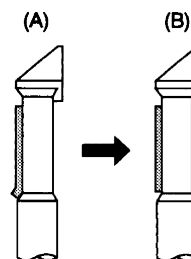

Fig. 2-1-78 No. 8 guide rough adjustment
2. Turn the ACE tilt adjusting screw until tape wrinkle is caused at the lower flange of No. 8 guide as shown in Fig. 2-1-78 (A).
3. Turn the ACE tilt adjusting screw counterclockwise until the tape travels along the lower flange as shown in Fig. 2-1-78 (B).